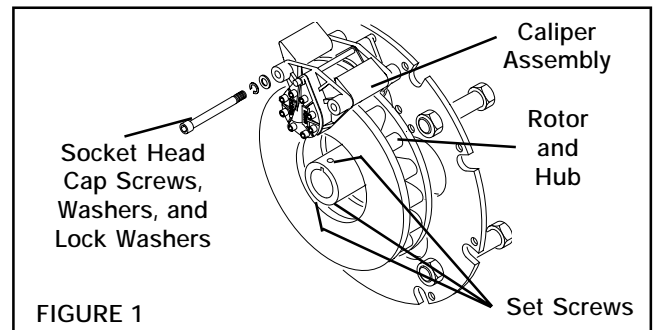

FIGURE 1
1. Slide one Caliper Assembly over the Rotor and Hub (See Figure 1).
3. Using Socket Head Cap Screws, Washers, and Lock Washers, secure the Caliper Assembly to the Mounting Ring (See Figure 1).
4. Tighten the Socket Head Cap Screws to 48 Ft. Lbs. [65.5 N•m] torque (See Figure 1).
7. Tighten Set Screws (See Figure 1).